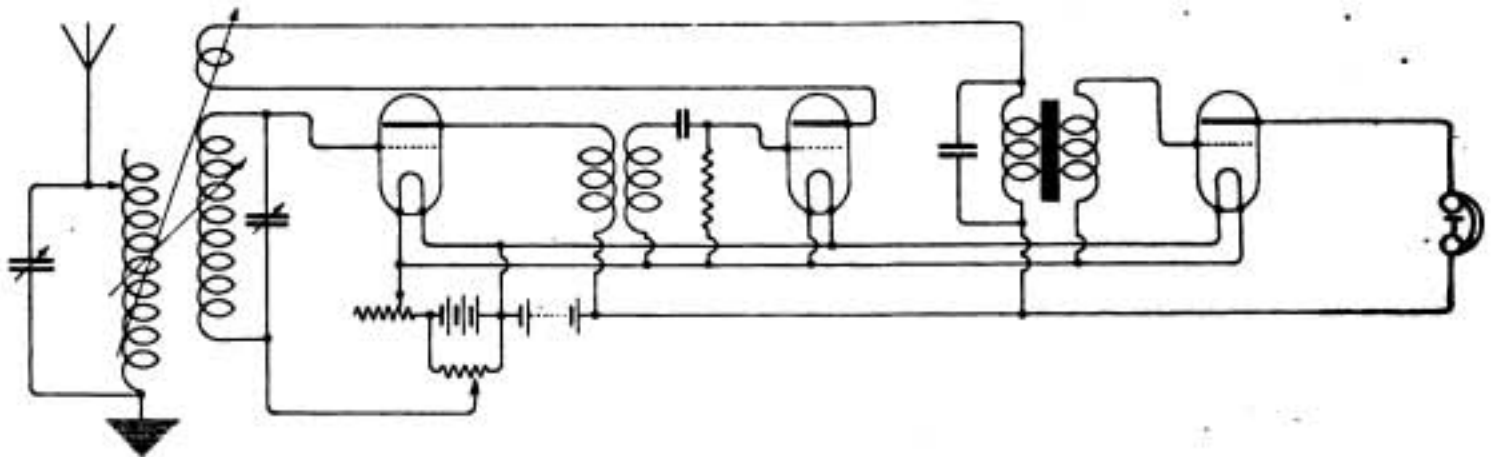

Fig. 2.
(1) We do not think it advisable. Signals with crystal and L.F. mag. should be weaker than those given by a valve and L.F. mag. (2) The reaction coil should be connected as shown in the diagram referred to. (3) The German amplifier should be inspected to see if it has a transformer in the circuit of first grid. If there is one, there is no necessity to use an external transformer. (4) These circuits were recommended for telephony, and we therefore advise a transformer coupled valve, diagram of which is given. (Fig. 2.)
"C.R.S." (Colombo) wishes to know (1) Which is the best theoretical ratio of inductances for use in aerial and reaction circuits. (2) Whether it is better to use a separate reaction unit. (3) Inductance values of secondary coils in reaction unit. (4) Whether statement made on page 724 of the issue of February 18th, with regard to the efficiency of the circuit given in Fig. 2 on wavelengths over 7,000 metres, is correct.